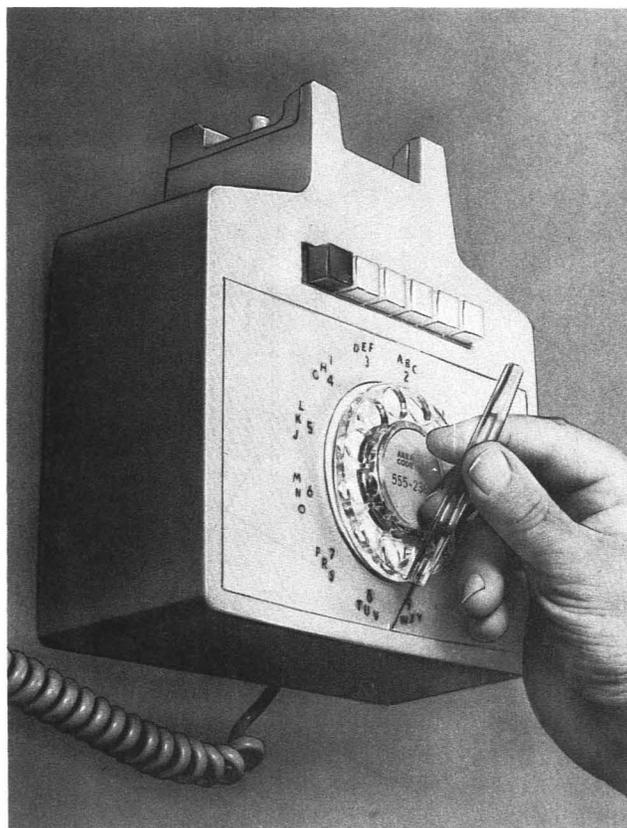

Fig. 20—Installing 851A (MD) or 852A Faceplate
- (1) Insert tabs on faceplate into slots of housing. Use a KS-21107 type releaser or equivalent to depress the tab of the faceplate retainer clip while seating the faceplate. To insure proper positioning of the retainer clip, raise the handle of the releaser well above horizontal, as shown in Fig. 20 before withdrawing the tool.
- (2) If installing 2851A faceplate (2851-type telephone set) place station number card in from front of faceplate in standard manner.
- (3) If installing 2852A faceplate, an 840693253 adapter (furnished) is used to retain the station number card. Install adapter in faceplate with the two retaining tabs toward the top of the faceplate. Check for proper seating of adapter.
- (4) If the latching characteristics of the 802695247 (P-269524) retainer clip is inadequate, replace with an 840155618 clip.